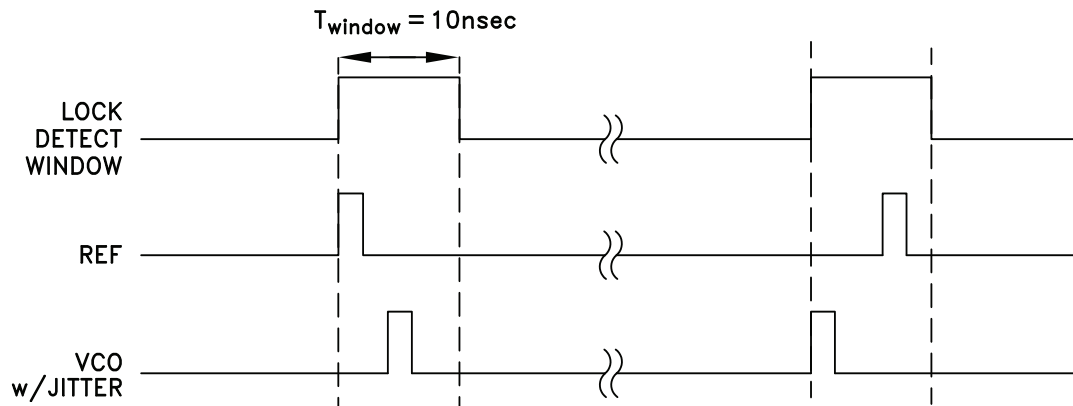

Figure 11. Normal Lock Detect Window
The Lock Detect circuit in the HMC700LP4(E) places a one shot window around the reference. The one shot window may be generated by either an analog one shot circuit or a digital one shot based upon an internal ring oscillator. Clearing *ringosc_oneshot_sel* (Table 14) will result in a fixed analog based nominal 10 nsec window, as shown in Figure 11. Setting *ringosc_oneshot_sel* will result in a variable length widow based upon a high frequency internal ring oscillator. The ring oscillator frequency is controlled by *ringosc_cfg*. The resulting lock detect window period is then generated by the number of ring oscillator periods defined in *oneshot_duration*, both in (Table 14).
The Lock Detect Flag is output to LD_SDO pin according to *pfd_LD_opEn* (Table 18) or to the internal SPI read only register if *locked* = 1 (Table 21). Setting *pfd_LD_opEn* will display the Lock Detect Flag on LD_SDO except when a serial port read is requested, in which case the pin reverts temporarily to the Serial Data Out pin, and returns to the Lock Detect Flag after the read is completed. Timing of the Lock Detect and Serial Data Out functions are shown in Figure 11.